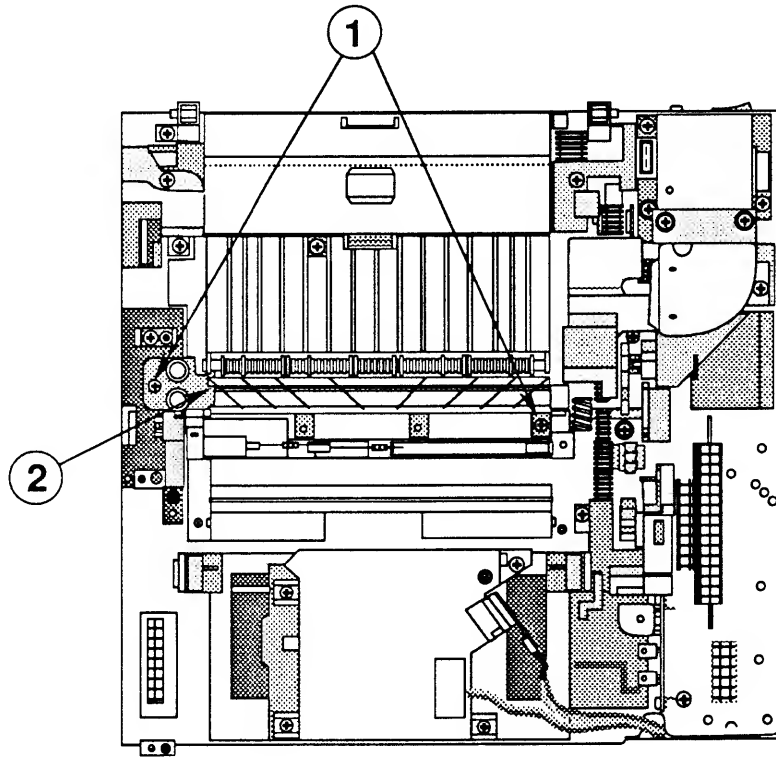

FIGURE 42
2. Remove the two Phillips screws (Figure 42, #1) that secure the transfer corona assembly (Figure 42, #2) to the chassis. Remove the transfer corona assembly.